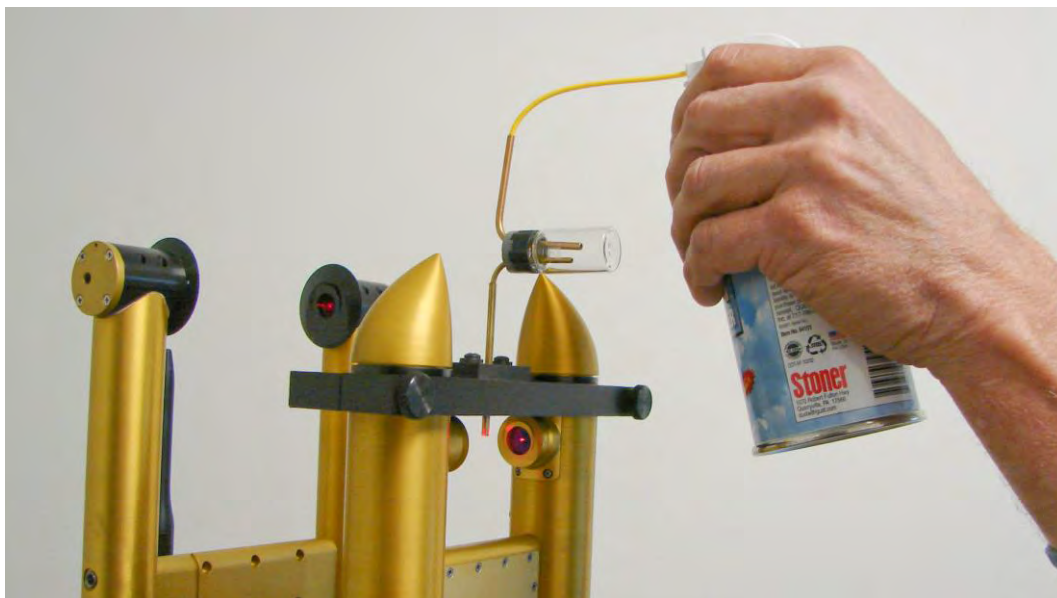

Figure 14: Releasing Glass Beads into the CDP. Note this picture is of a CDP attached to a CCP; operation is the same for stand-alone CDPs.
- 8.) Connect the tube on the calibration fixture's far end to the dispenser, and connect the dispenser to the duster. (See Figure 14.) *Gently* press the duster so glass beads are released into the instrument. A very small amount of pressure on the trigger of the duster can will suffice. The calibration should be done in a short burst about 1 second or less. There will be a delay of 1-3 seconds before the data shows on the computer screen. (See Figure 6.) The total number of particle counts, not concentration, should be 30-200. This is summed across all of the bins.